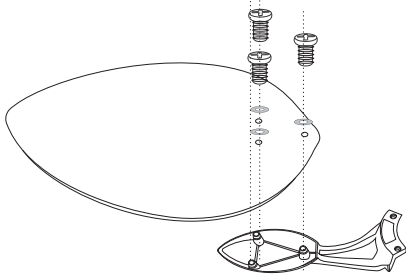

Fig. 6
- Assemble the fan blades and blade holders using the supplied fan blade mounting screws and washers. (Fig. 6)